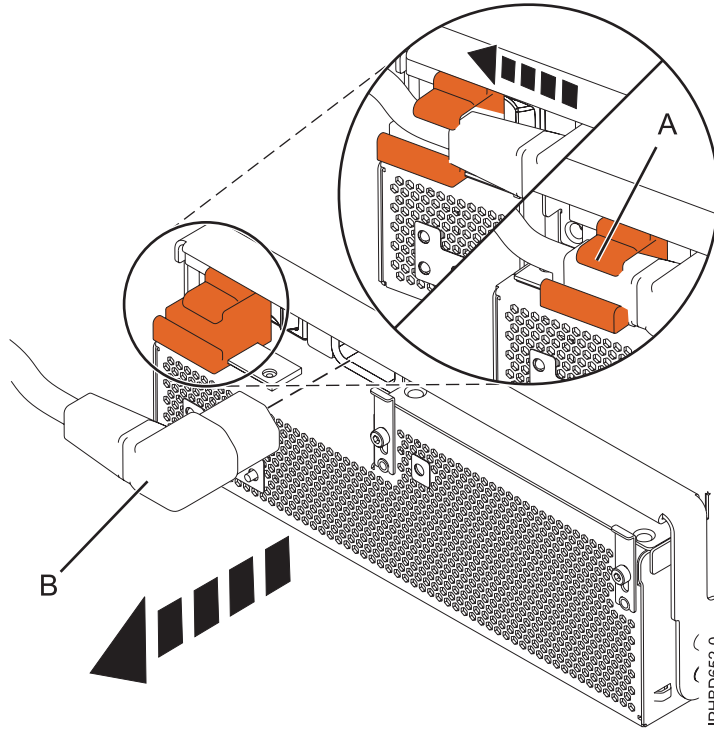

Figure 8. Disconnecting the power cable from the front of an expansion unit
6. For the power supply that you want to remove, slide the cable retention bracket to the open position (A), and then disconnect the power cable (B) as shown in Figure 8 on page 10.